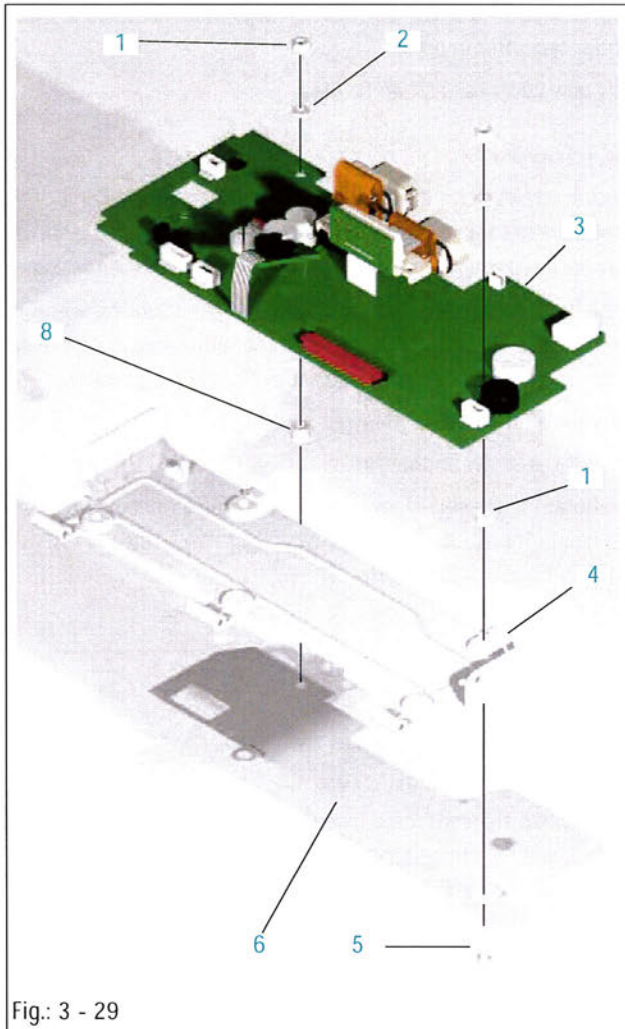

Fig.: 3 - 29
9. Press the axle out of the operating unit rear panel (Fig.: 3 - 28 / Item 7), the bottom inner frame (Fig.: 3 - 28 / Item 5), from the hinge cover, spring (Fig.: 3 - 28 / Item 2), the hinge cover, cable (Fig.: 3 - 28 / Item 3) and the hinge spring (Fig.: 3 - 28 / Item 8).
Legend to fig. 3 - 29: